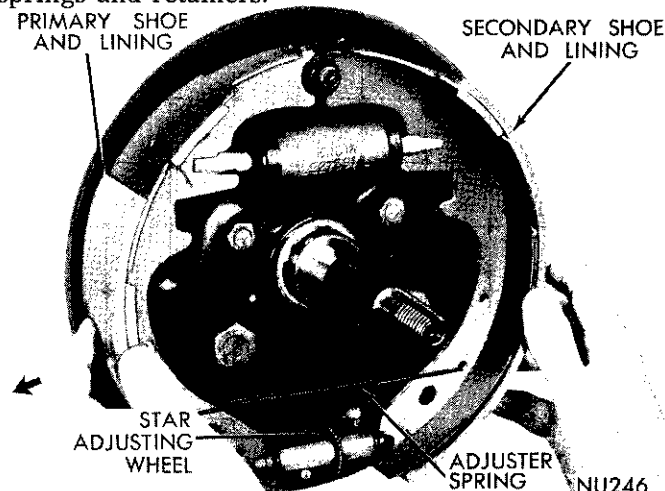

Fig. 7—Installing Brake Shoes (Left Front)
(4) Spread anchor ends of brake shoes to hold star adjusting wheel assembly in position.
(5) Holding brake shoes firmly, place assembly on support plate, and at the same time engage shoe webs with push rods. (Fig. 7).
(6) Using Tool C-4070, install shoe retaining nails, springs and retainers.